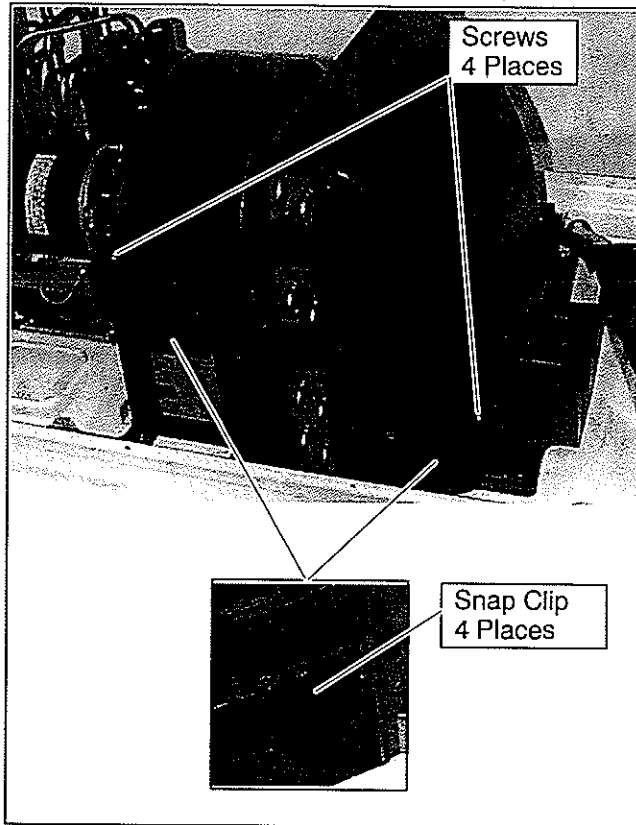

Figure 3-18 Upper Scroll Assembly
- b. Remove 4 screws securing upper scroll assembly to the lower scroll assembly. (See Figure 3-18)